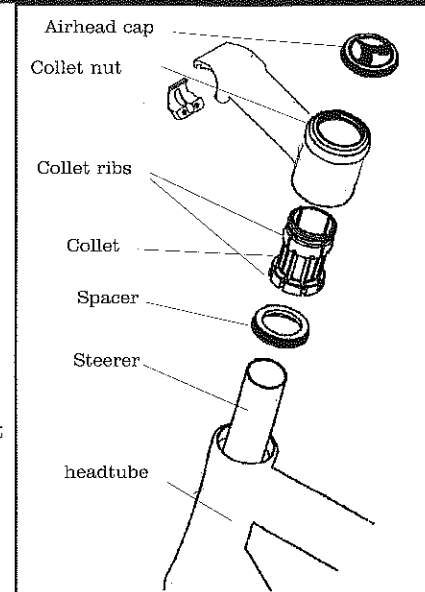

Fig. 8
The MC2 stem uses a collet (Fig. 8) to grip the steerer tube. This lighter design allowed Klein to produce a long steerer which could be cut to the needed size for a variety of frame sizes. The MC2 The stem was only produced as a welded bar/stem combination. There is a separate tool set to service the MC2 system.
2. Lightly grease the steerer, and remove any excess grease with a rag. Also lightly grease the collet threads and the collet ribs, where the collet contacts the inside of the stem (Fig. 8).